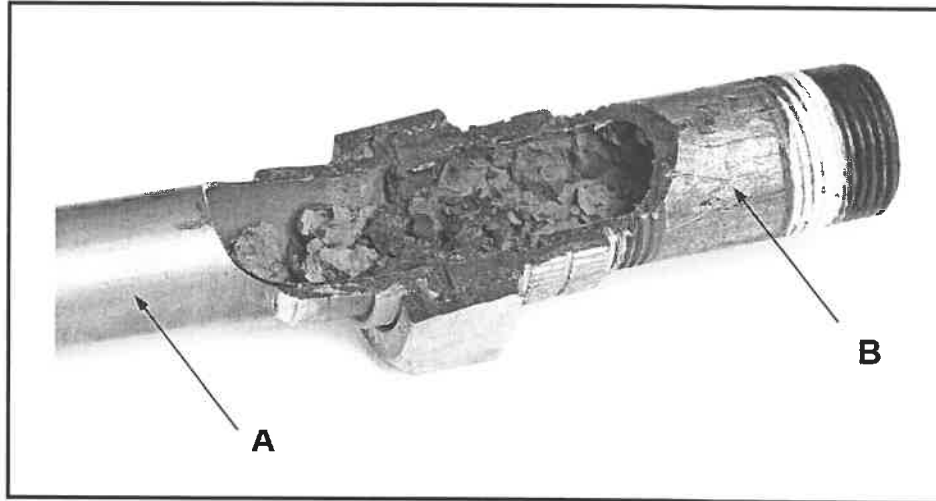

FIGURE 4.11
- 4.11 FIGURE 4.11 below is an image of corrosion caused by connecting two pipes, which are not made of the same metal.